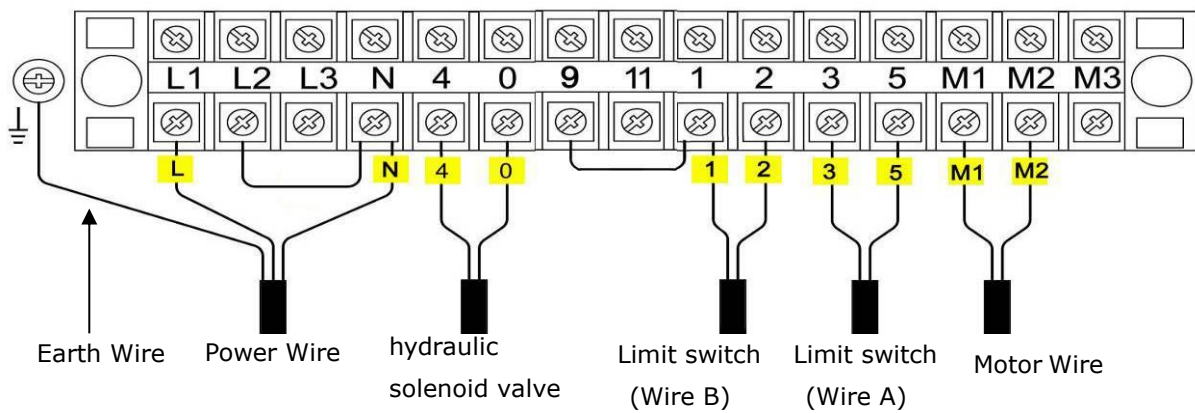

Fig. 12
2.1 Connect the power wire and limit switch wire according to the wiring diagram (See **Fig. 12**).